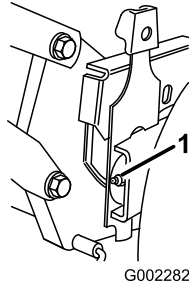

Figure 19
2. Wipe the grease fittings with a clean rag (Figure 19).
3. Install a grease gun onto the fitting and gently apply 2 or 3 pumps of #2 multi-purpose lithium base grease (Figure 19).